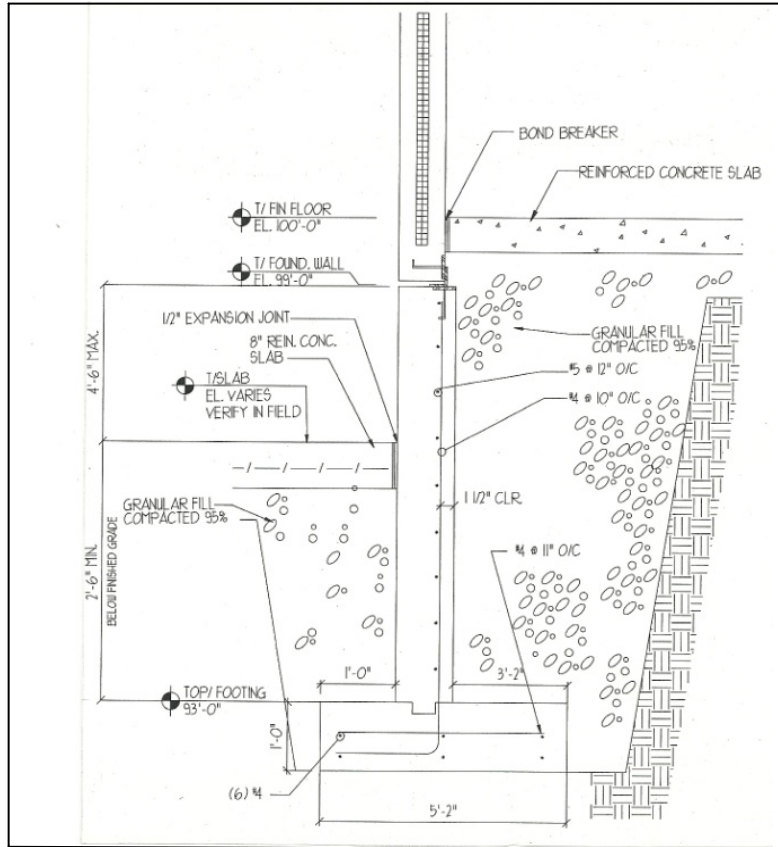

Figure VII.3 Foundation Wall Section
**VII.2. Foundation walls** – Foundation walls are the base of the building. They transfer the weight of the building to the footings and to the ground below. Foundation walls and columns are shown as solid lines on the foundation plan and as hidden lines in elevation views. A foundation wall section is shown in Figure VII.3.